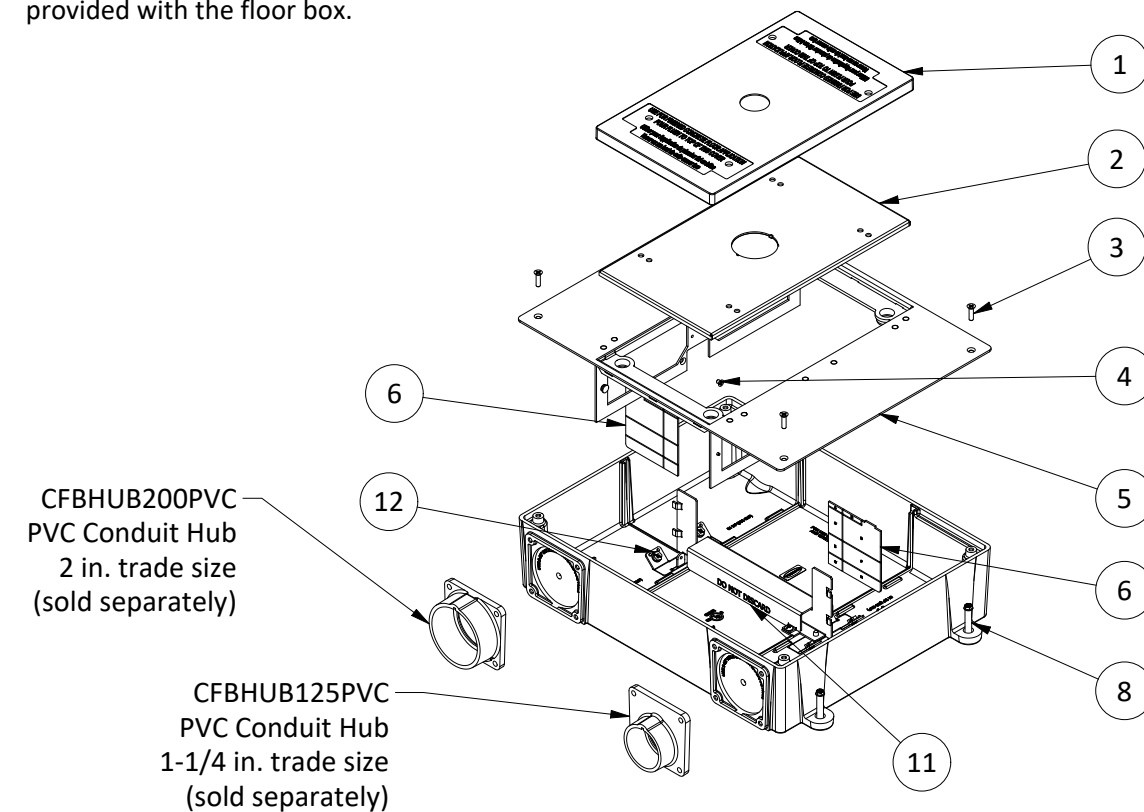

FIGURE 1
BEFORE CONCRETE POUR, SEE FIGURES 1, and 2
11. Install leveling screws [8] as shown in Figure 1. Level box as required, positioning the floor box with the temporary cover [9] even with slab level. Use leveling screws [8] and wire to keep the floor box from moving during concrete pour. See Table 1 for minimum depth of pour.